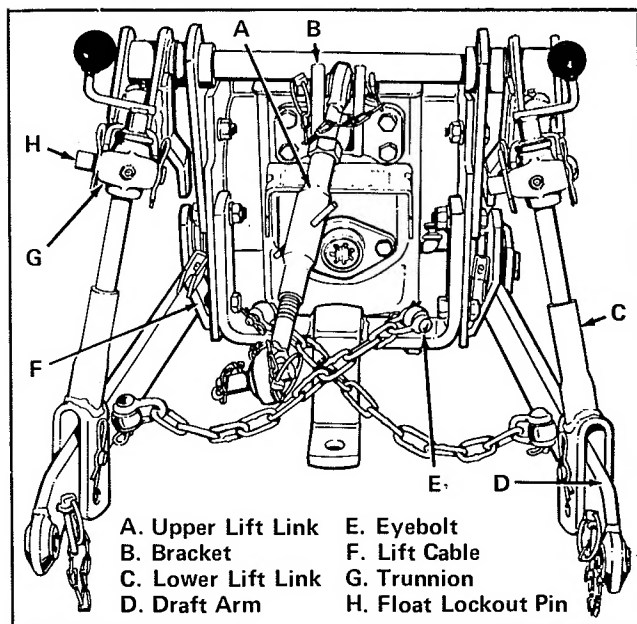

Figure 1. Set Up 3-Point Hitch
1. Set up 3-point hitch (figure 1) on tractor as follows: